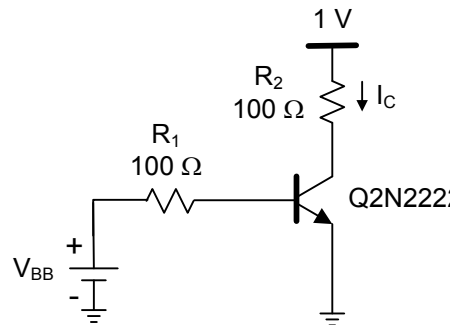

Fig. 4. BJT transistor circuit 2
1. Obtain the value of  $I_S$  from a simple simulation of the transistor: using the setup of Fig 4, excluding the resistors, apply  $V_{BB} = 0.65$  V, measure  $I_C$  while  $V_{CE} > 0.5$  V and use equation 1. Assume that  $n = 1$ . Use the Q2N2222 BJT in the simulation.
4. Construct the circuit shown in Fig. 4 in PSpice. Place a current marker on the collector of the Q2N2222. Run a DC Sweep on the  $V_{BB}$  voltage source to generate the input characteristics. Do a linear sweep starting at 0 V and ending at 2 V with a linear increment of 5 mV. Modify the x-axis variable to be the  $V_{BE}$  voltage, not  $V_{BB}$ . Comment on your results for all regions of the plot.